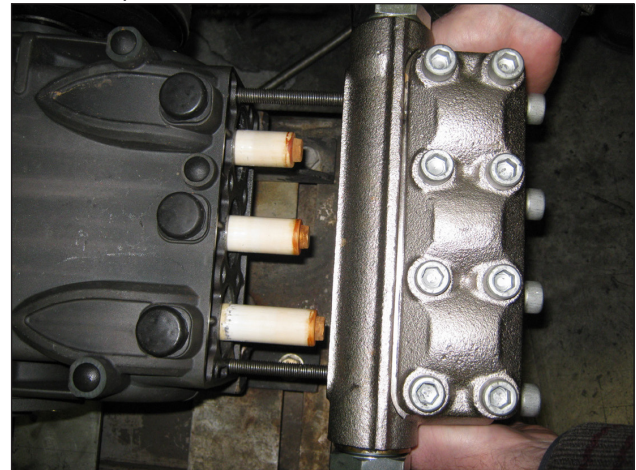

Fig. 30
- B) Lubricate ②③⑤ components with OCILIS silicone grease code 12001600. This operation is also deemed necessary to facilitate adjustment of the lip seal on the piston.
1. Using two screws – service pins (code 27726000), fasten the casing as indicated in (Fig. 30). Position the complete head, making sure that it is centred only on the central piston.